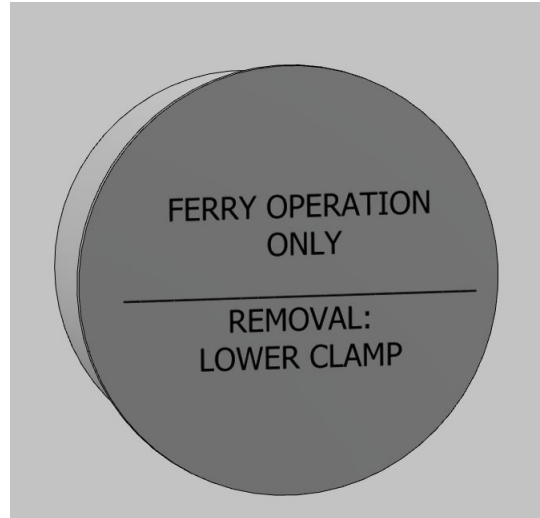

Figure 1 - Etched Cap, 10A18000-004 & 10A18000-005
10. Etch plugs (items 1 & 4) if not already accomplished. (See Figure 1).